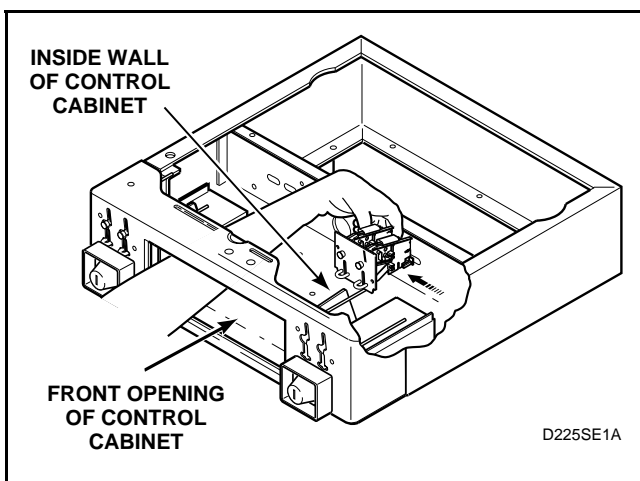

Figure 24
- (9.) Carefully slide drop horizontally until drop clears inside wall of control cabinet. Remove drop through front opening of control cabinet. See *Figure 24*.